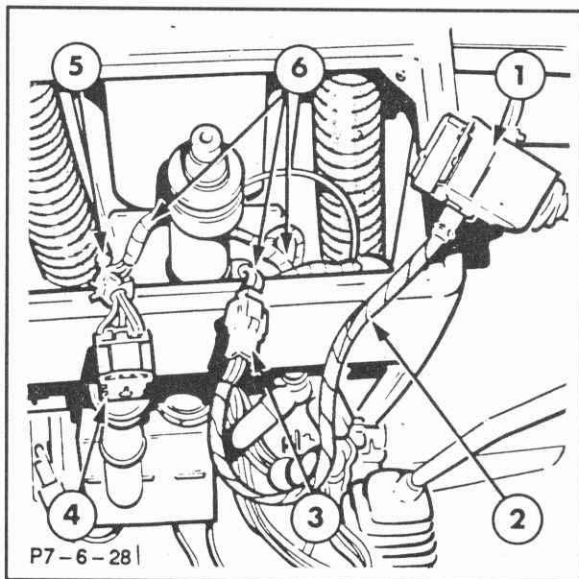

Figure 7-18
6. Disconnect the connectors, identify the location of the steering console indicator lights, and remove the panel from the steering column, Figure 7-18.